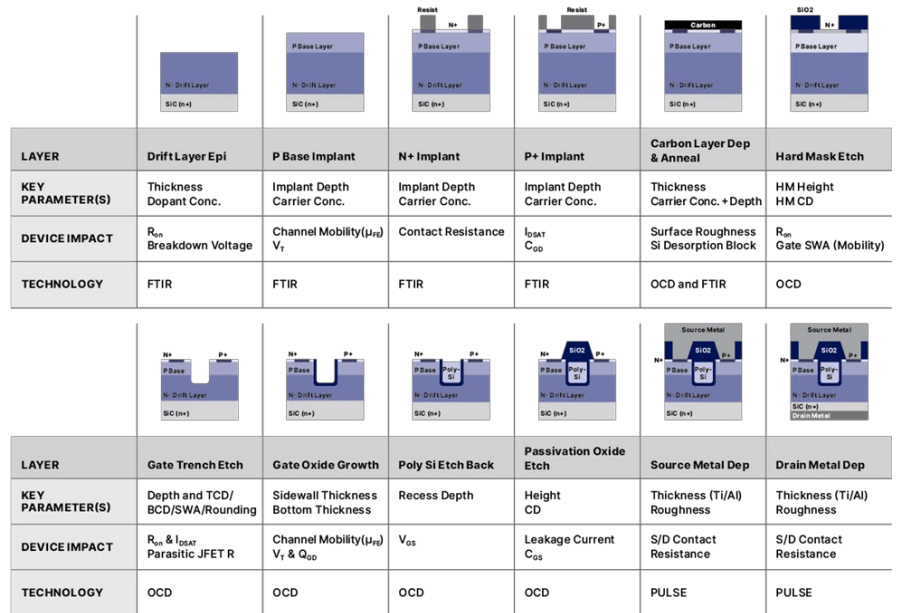

Figure 1: The SiC trench MOSFET process.
There is yet another process control challenge to consider when it comes to compound semiconductor power devices: the adoption of trench-based structures (Figure 1). Moving from planar to trench-based structures enables reduced on resistance (R_{on}). The move to trench-based devices makes the measurement of trench characteristics like top critical dimension (CD), bottom CD, sidewall profile and corner rounding important criteria in the device flow. Device manufacturers need to be certain that each trench on every die on every wafer is within control limits so that device performance over the whole wafer, and from wafer to wafer, is within specifications.